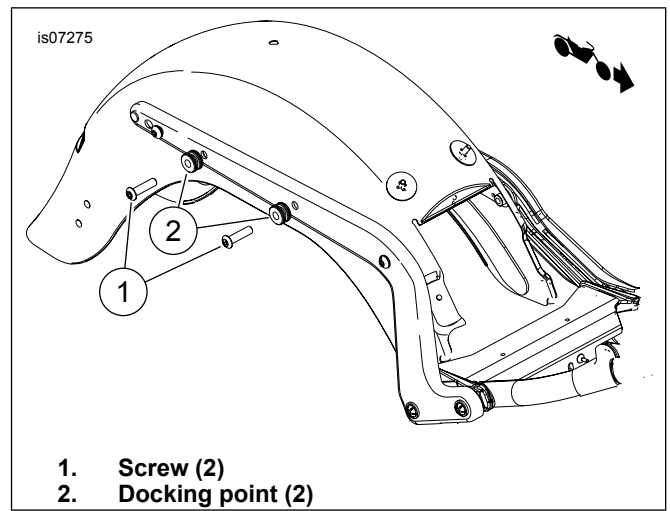

Figure 3. Docking Point Installation (Without Other Detachable Accessories)
Without Other Detachable Accessories: See Figure 3. Insert screws (1) through mini docking points (2). Install screws into fender support mounting bracket (inside fender). Tighten screws to 28–36 N·m (21–27 ft-lbs).